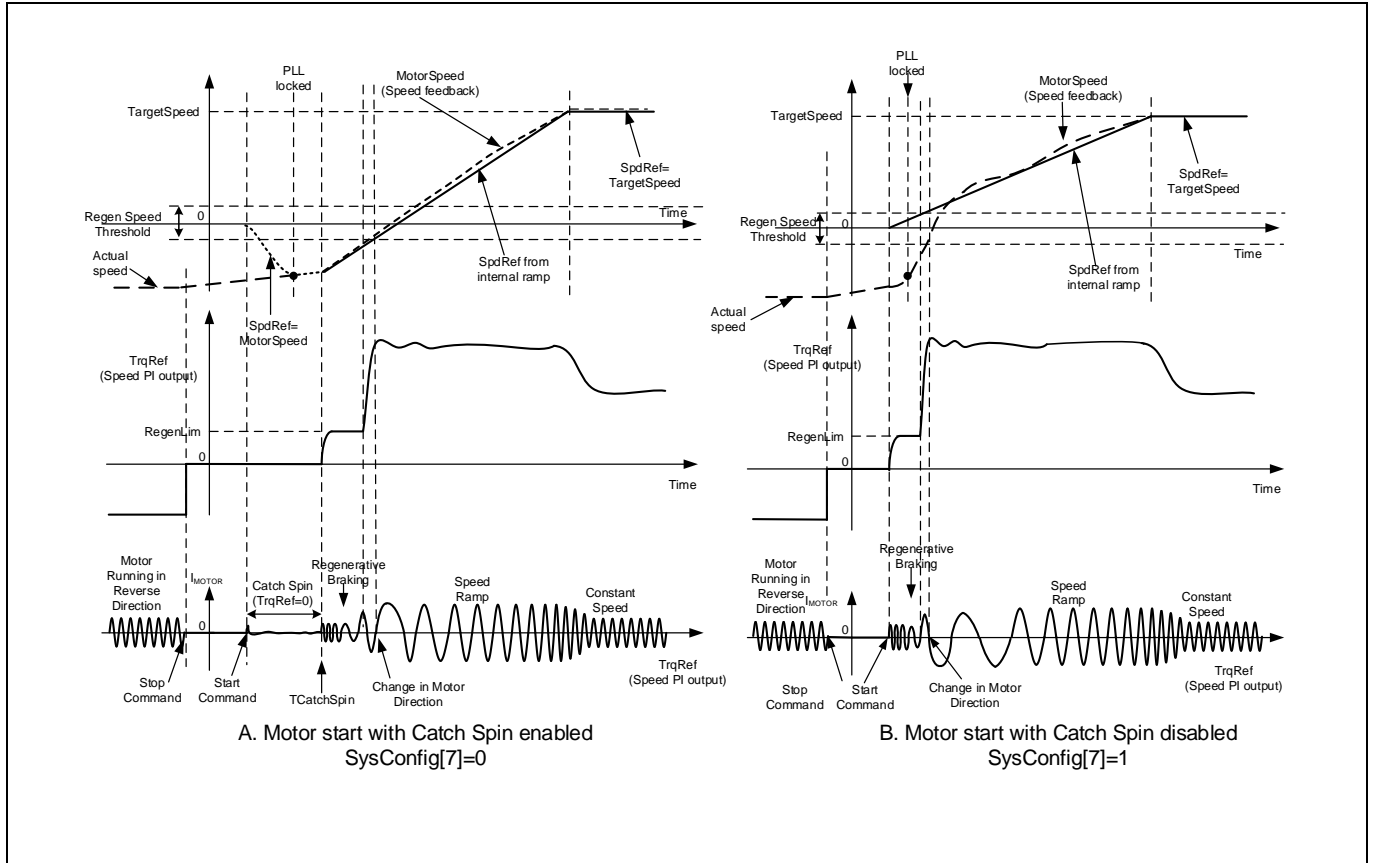

Figure 20 Reverse Catch Spin - Motor start with/without catch spin
If the motor is spinning in the opposite direction as desired, then the catch spin sequence is termed as ‘Reverse Catch Spin’. Figure 20 (A) shows an example of ‘Reverse Catch Spin’. In this example, at the start command, the motor is already spinning (in the opposite direction). During the catch spin sequence, no motoring current is injected. After the TCatchSpin time has elapsed, the motor is still spinning in opposite direction at a speed higher than Regen Speed Threshold (RegenSpdThr), thus an injected torque, limited by the value defined in RegenLim parameter, forces the motor to decelerate via regenerative braking. Once the speed of the reverse spinning motor falls below Regen Speed Threshold (RegenSpdThr), the injected torque is limited by MotorLim (RegenLim<=MotorLim). The injected torque forces the motor to come to a stop and start accelerating in the desired spin direction, following the speed ramp reference to reach the set target speed.
If catch spin is disabled, normal speed control starts immediately after the start command, without waiting for PLL to be locked. Usually the control would still be able to start a spinning motor, but motor speed may not increase/decrease seamlessly. As shown in Figure 20 (B), after the start command, the motor is still spinning at a speed higher than Regen Speed Threshold (RegenSpdThr), hence the injected torque limited by the value defined in RegenLim parameter, forces the reverse spinning motor to decelerate via regenerative braking. Once